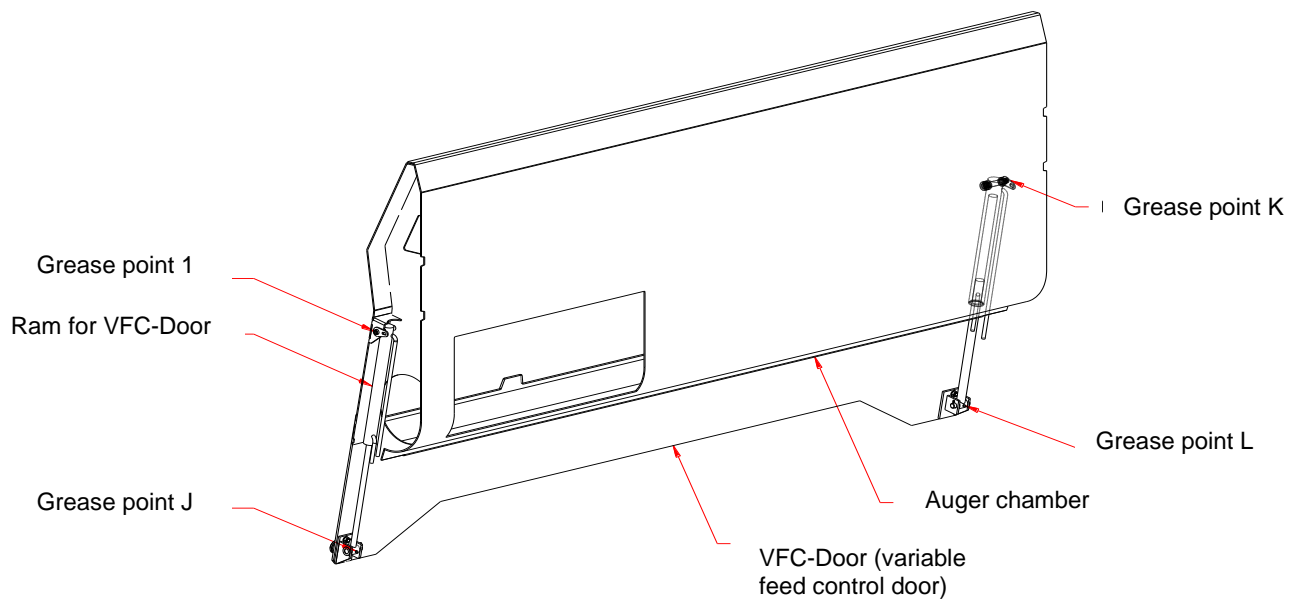

Figure 11: VFC-Door grease points
- a. Two pins and two bushes on the guillotine door lifting rams (I, J, K and L, Figure 11)